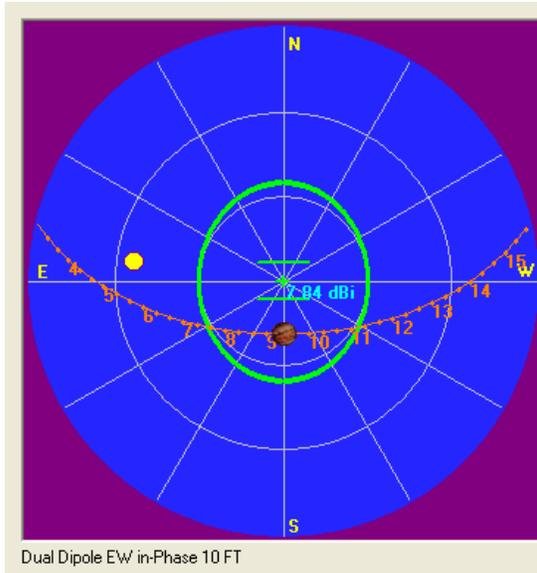
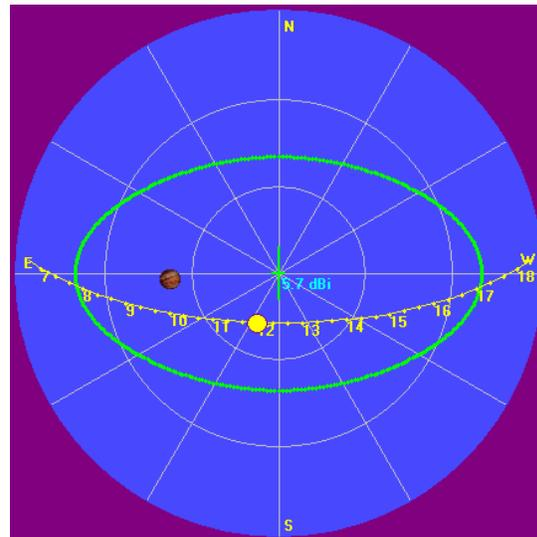

Figure 3.14. RJP plot showing the overhead antenna beam and the track of Jupiter across the sky in July 2011 for a station located at 30°N.
Figure 3.15. RJP plot showing the pattern of a single N-S dipole and the track of the Sun for a station at 20°N latitude in early April.
Radio Jupiter Pro is used to predict when Jupiter emissions are likely to occur, allows us to see the track of Jupiter (or the Sun) across the sky, and to visualize the antenna beam pattern on the sky (use the Sky Map display in RJP). Figure 3.14 depicts the sky above an observer station using a Jove dual dipole antenna with the wires running east-west (the two parallel lines near the center of the plot represent the dipoles). The antenna at 10 ft with zero phasing produces an overhead beam. The track shows Jupiter entering the antenna beam at 0730 UTC and leaving the beam at 11 UTC. Figure 3.15 shows a track for the Sun and the pattern for a single N-S dipole.
D. For solar observations a single dipole is sufficient since radio noise bursts from the Sun can be much stronger than Jupiter. The single dipole takes less space and is simpler to construct and this may be an advantage for some observers. Signals will be weaker than if using the dual dipole array but should be plenty strong for easy detection of many solar bursts. A single dipole oriented east-west at a height of 15 feet will provide good coverage for a few hours of solar observations around local noon throughout the whole year for stations located between about 35° north and south latitude (Fig. 3.10). A single dipole oriented north-south will provide a wide east-west beam and may be preferable for some stations at some times of the year (Figure 3.15).